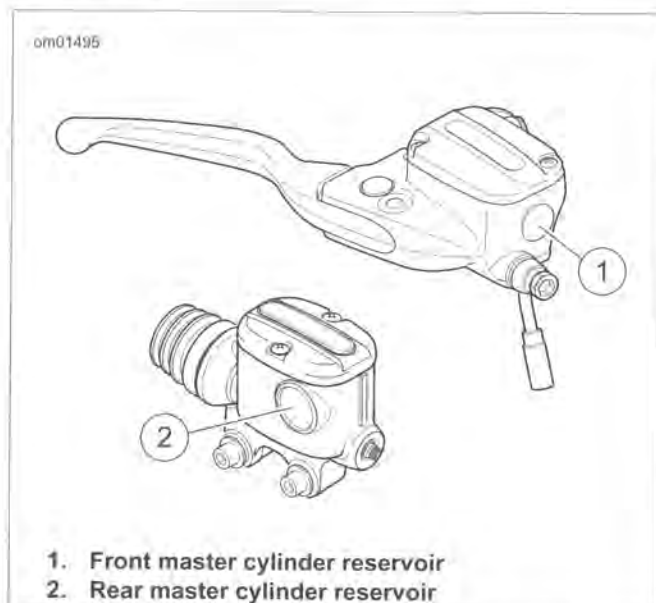

Figure 1-30. Brake Fluid Sight Glass (typical)
2. See Figure 1-30. View reservoir sight glass and verify fluid presence.